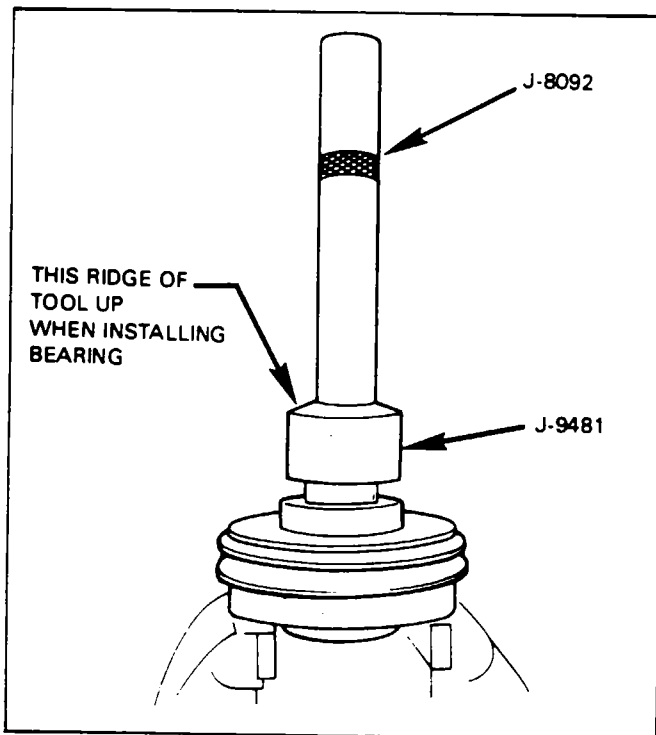

Figure 21-34. Installing Pulley and Drive Plate Bearing
1. Install the pulley and bearing assembly on the end of the compressor, with tool J-9481. (Refer to Figure 21-34.) The pulley should rotate freely.